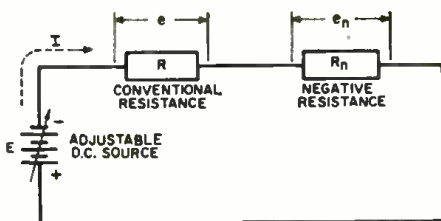

Fig. 1. Illustration of basic principle.
resistance is something else again. The concept is easily demonstrated to the dubious, in the following common-sense terms. Consider a negative resistance ( $R_n$ ) connected in series with a conventional (positive) resistance ( $R$ ) and an adjustable d.c. source ( $E$ ), as shown in Fig. 1. The following facts are evident: (1) the same current,  $I$ , flows through all parts of this series circuit and is determined by the voltage  $E$  and